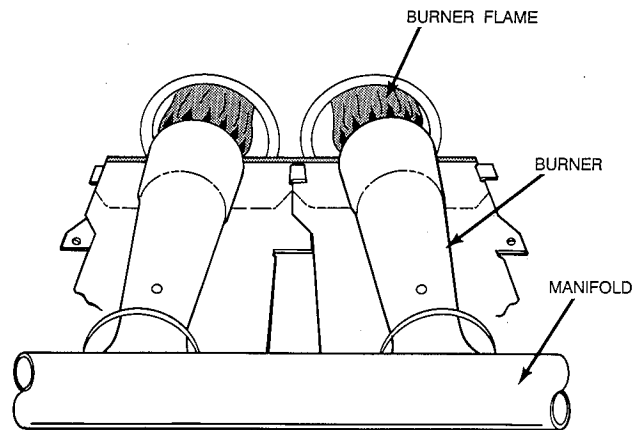

Fig. 15 —Burner Flame
- (3.) When correct input is obtained, replace regulator adjustment seal cap. Main burner flame should be clear blue, almost transparent. (See Fig. 15.)